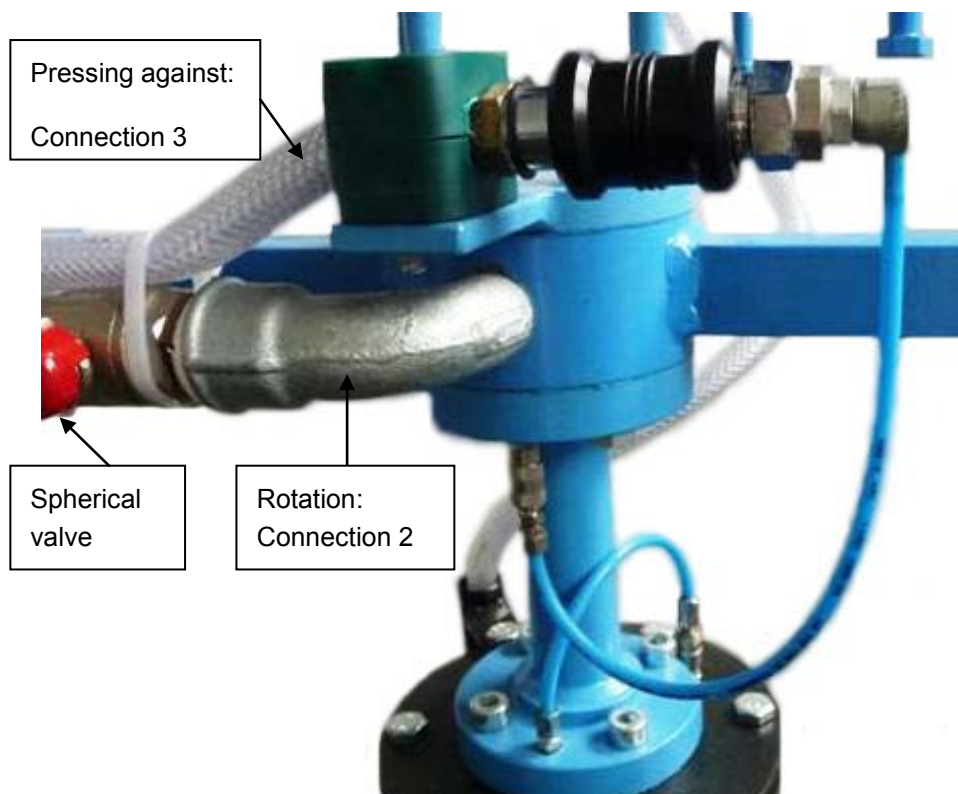

Fig. 7 – Air connections: Rotation and Pressing-against
1. actuate the ball valve for rotation of honing head (Fig. 7)
2. actuate simultaneously the slider for pressing against and lifting device LOWERING (D)
3. when reaching the lower reversal point, actuate lifting device LIFTING (U)